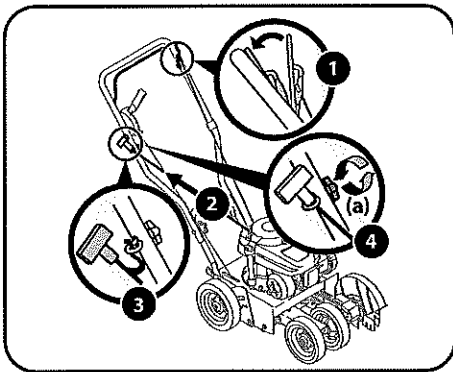

Figure 2-5
1. Stand behind the edger and hold the blade control against the upper handle. See Figure 2-5.
**NOTE:** The starter rope will not pull out of the engine unless the blade control (refer to Figure 2-5) is depressed against the upper handle.